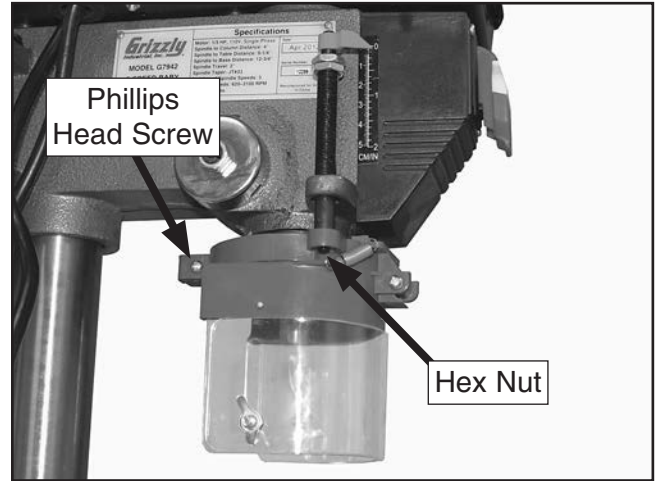

Figure 3. Chuck guard installed.
3. Slide the chuck guard onto the quill flange, as shown in **Figure 3**, then tighten the Phillips head screw to secure it.